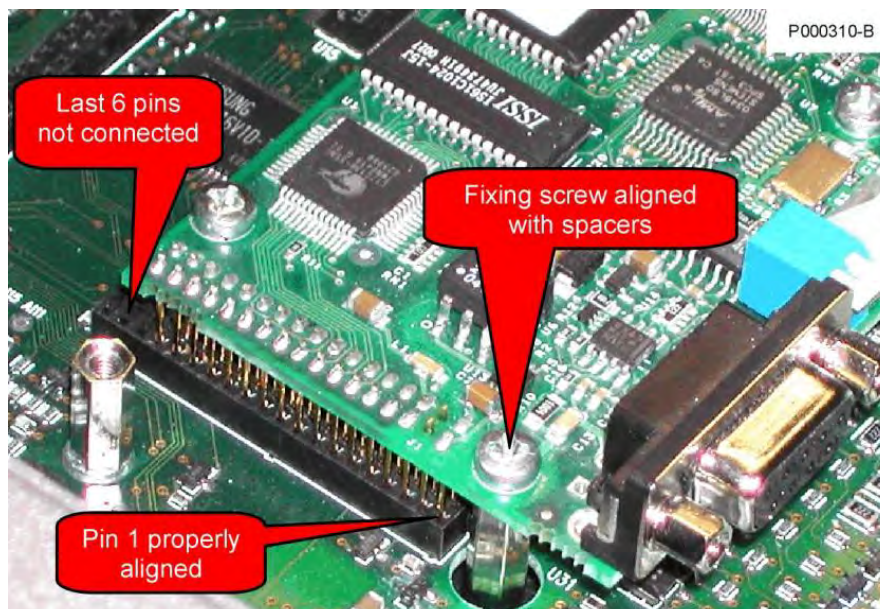
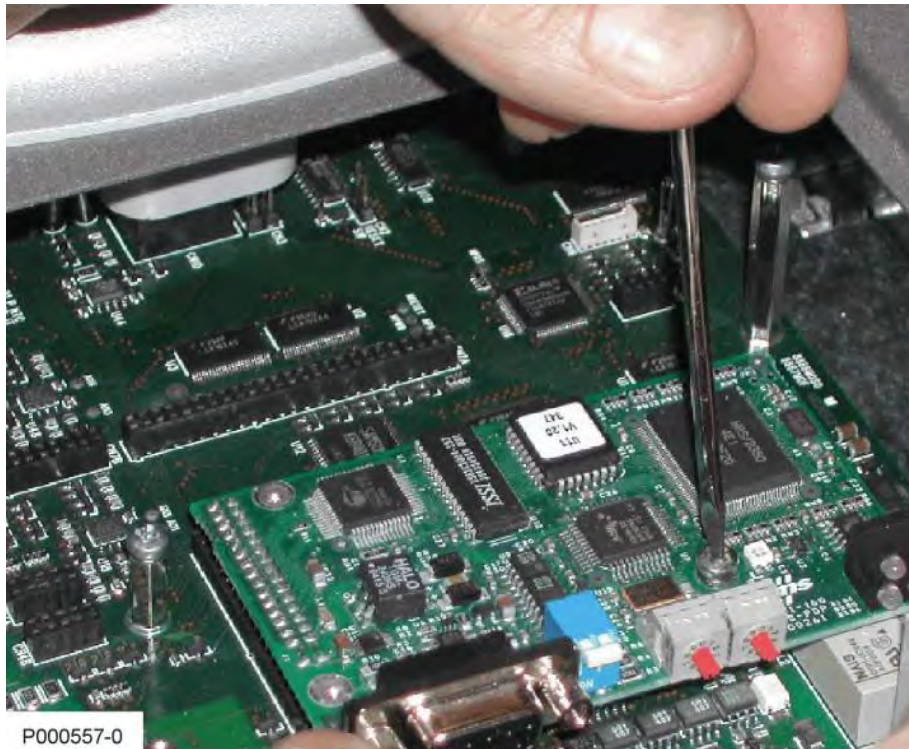

Figure 132: Checking contacts in the slot B
Figure 133: Fastening the communications board to slot B
- 4) Insert the communications board in the slot B; make sure that the comb connector in the board is inserted in the front part of the slot only, and that the last 6 pins are not connected. If installation is correct, the three fastening holes will match with the housings of the fastening screws for the fixing spacers. Tighten the board fixing screws as shown in Figure 132 and Figure 133.